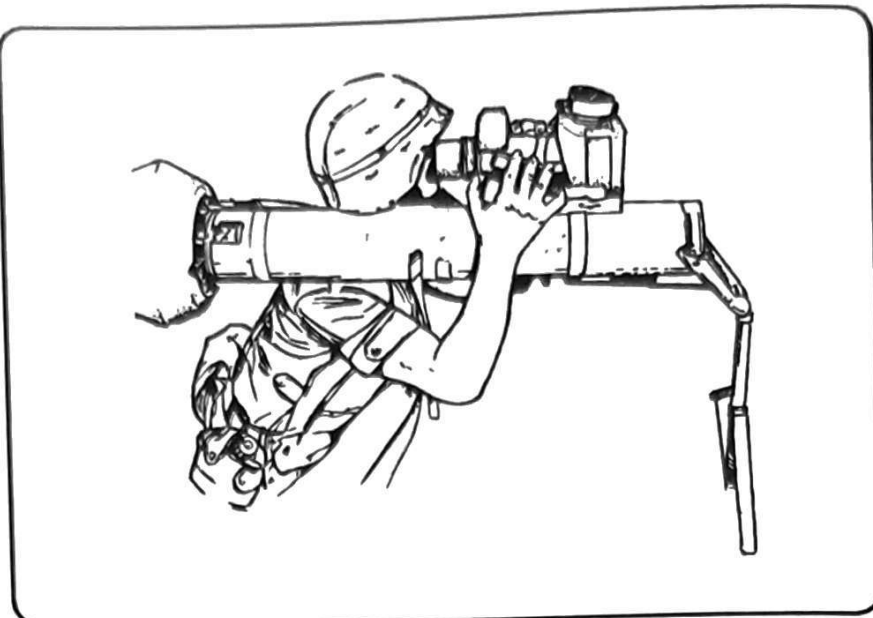

Figure 7-3. Standing supported position (fighting position).
b. **Standing Supported Position.** Demonstrate the position, then have the soldiers assume it (Figure 7-3).
(1) Place the bipod legs to the front of yourself while standing in an individual fighting position or behind a support. The bipod is placed at such a distance that the gunner must reach for the round.
(2) Spread the legs a comfortable distance apart, keeping the legs straight. Place the round on the shoulder muscle.
(3) Lean forward against the fighting position's wall to support the body from the waist down, providing a stable firing position.
(4) Grip the tracker as in the sitting position. Pull back and down, while straightening the upper body slightly